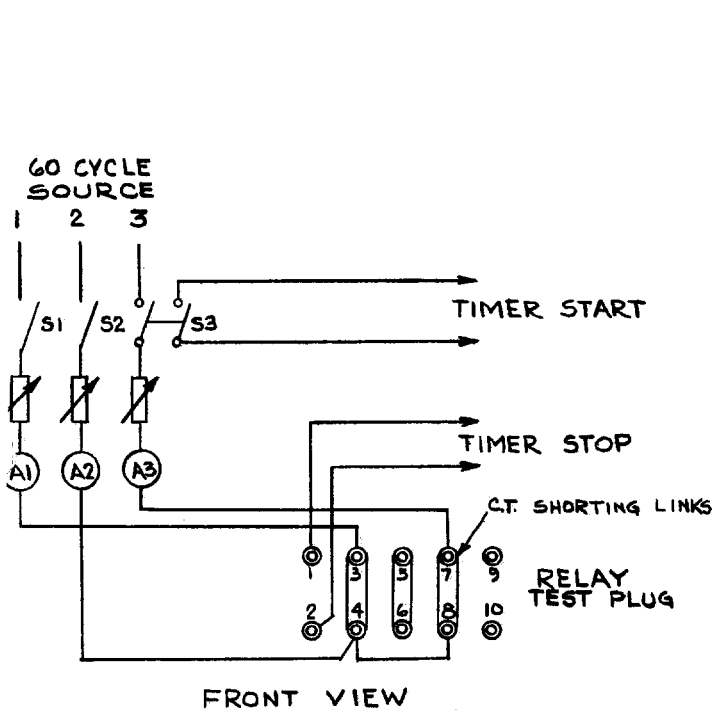

Fig. 7 (0165A7584-0) Field Test Connections For Checking Pick-up And Time Delay
1. The relay should be set for the pick-up and time delay to be used in its final location. Connect the relay as shown in Fig. 7 and close the switches S1 and S3. Adjust the current thru ammeter 1 to give the desired negative phase sequence current by using the following equation.